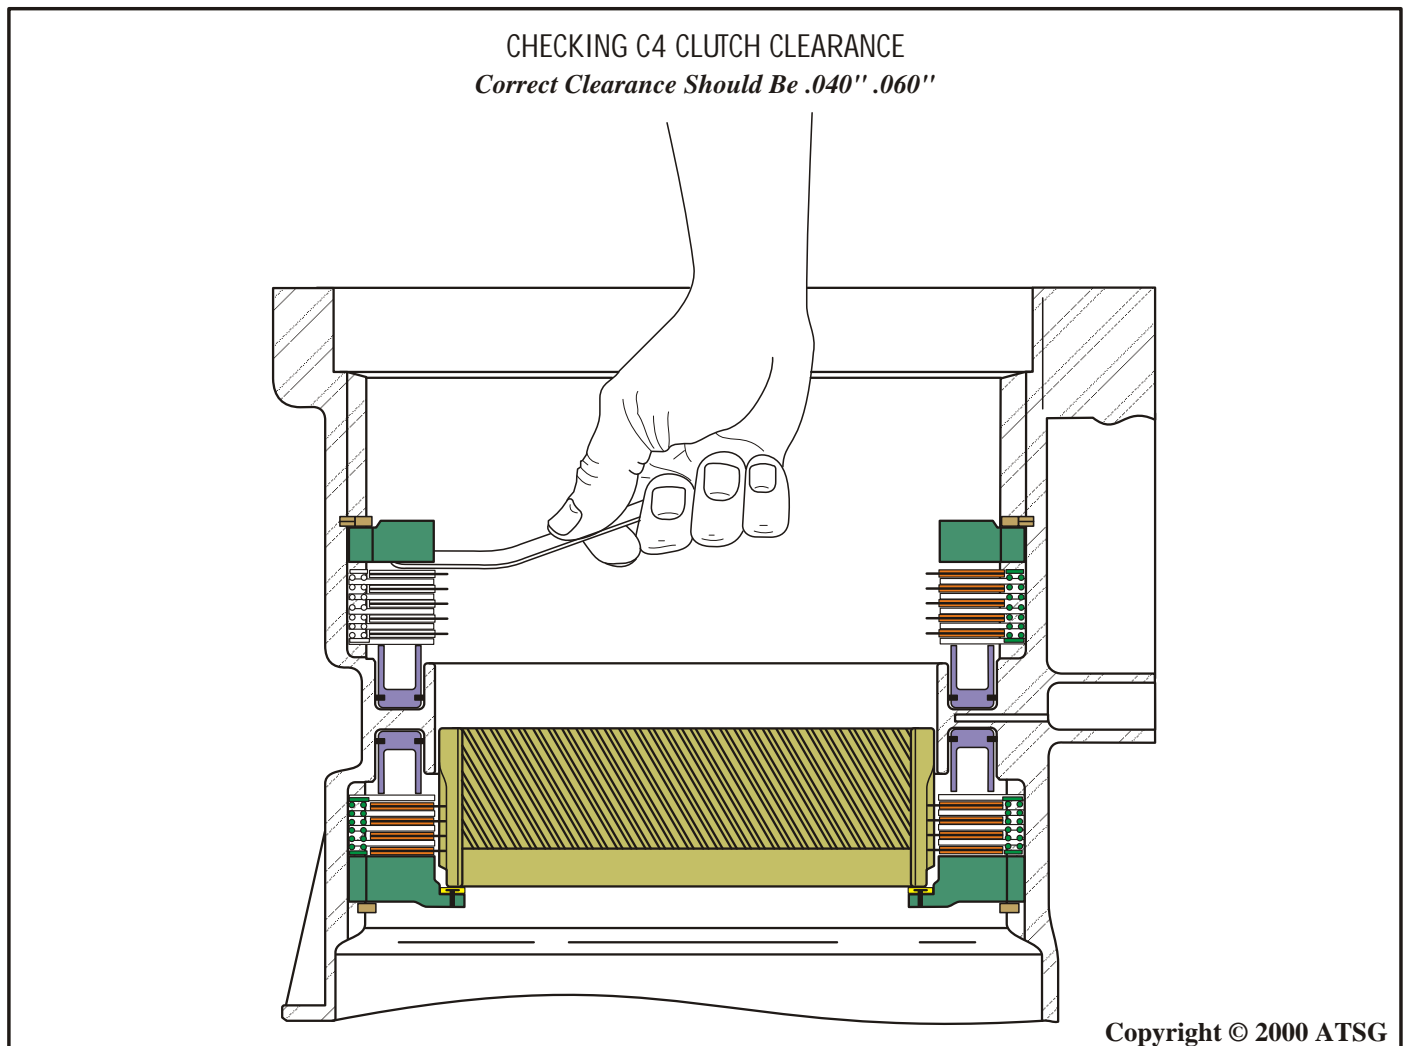

Figure 152
10. Check the C4 clutch clearance using the feeler gage, through the rear opening in transmission case, as shown in Figure 152.
11. Correct clutch clearance should be .040"-.060", as shown in Figure 152.